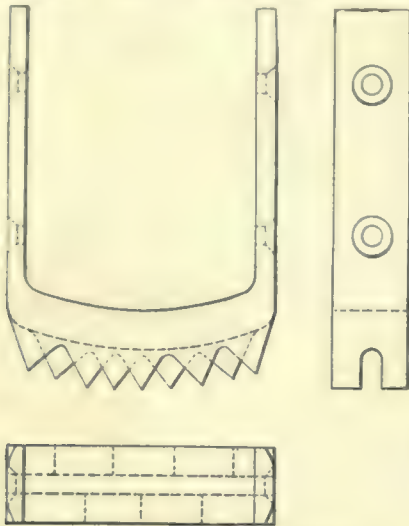

Fig. 1.—Ladder Foot Safety-Device.
The oiling of shafting should be done whenever possible while the machinery is at rest. Better still, the bearings may be fitted with automatic lubricators which need be reilled only when the shafting is not in motion. But sometimes the shafting requires attention while in motion, and safe means of access should be provided for this purpose. The following means are the safest. (1) A service platform suspended by metal straps from the ceiling, or carried on brackets, attached to a wall or to columns. Such a platform should be provided with a hand-rail three feet high and a skirting-board about six inches in depth, the latter to stop the foot in case of slipping. (2) A ladder provided with hooks or hangers to fit over the shaft at the upper end, and with some material to prevent slipping at the lower end. (A ladder should never be permitted to lean against shafting in motion, if it is possible to avoid so doing). For wood or cement floors, iron straps pointed at the end and screwed to the sides of the ladder, so as to project some two inches below the bottom are considered best. Fig. 1 presents an elaboration of this device, which has been very successful. These "feet" are made of malleable iron and are fastened to the ladder with ordinary wood screws. The "foot" illustrated in the sketch is for a ladder 3 inches wide at the foot and has ten staggered teeth on the bottom at about $\frac{1}{2}$ -inch centres.